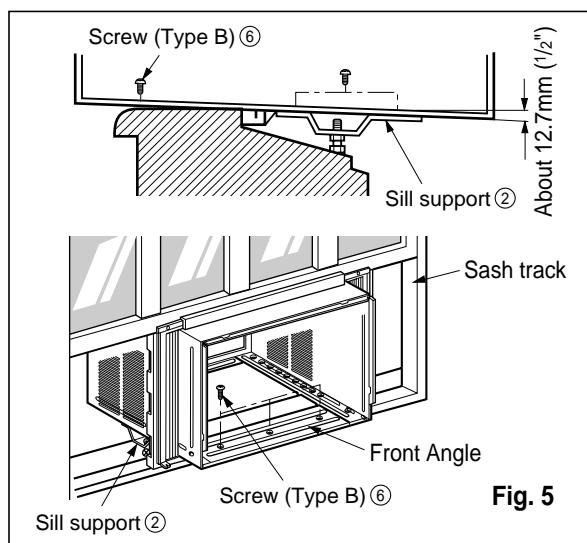

Fig. 5
6. The cabinet should be installed with a very **slight tilt (about $\frac{1}{2}$ " downward)** toward the outside (See Fig. 5). Adjust the bolt and the nut of sill support for balancing the cabinet.
7. Attach the cabinet to the window sill by driving the screws ⑥ (Type B) through the front angle into window sill.